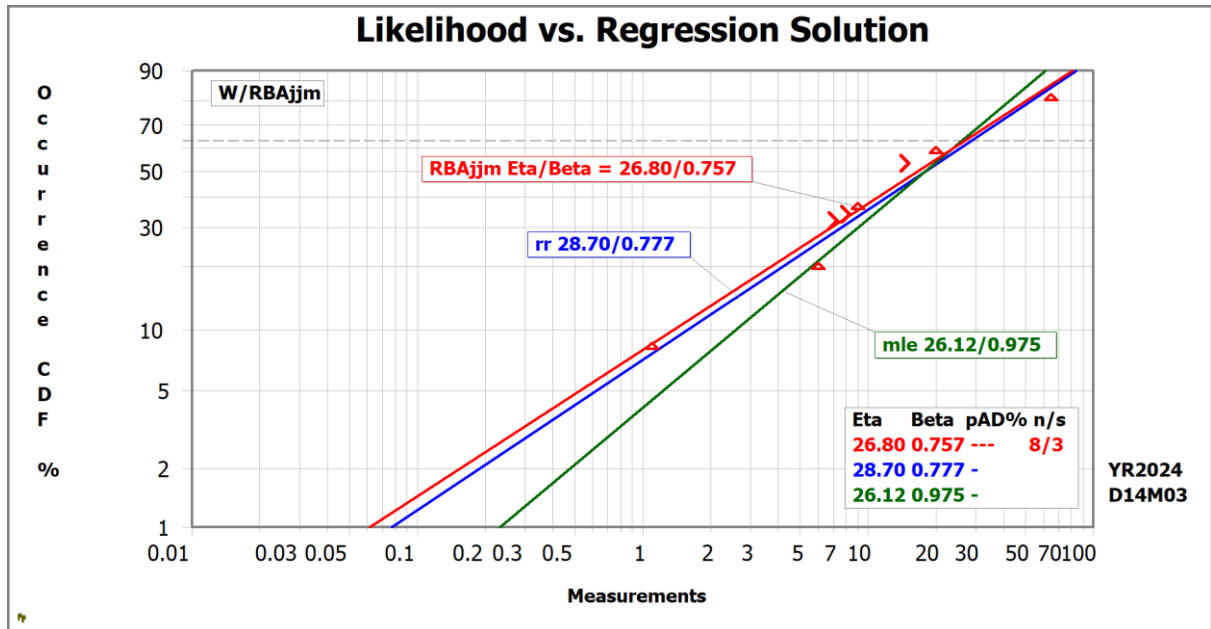

Figure 7: Comparing Rank Regression (rr), Maximum Likelihood Estimate (mle), & mle-RBA (RBAjmm)
- C. From the Main Screen, Home group, select Open/Import, and open the **PlayTIME-Problem-5.w** file. Select the small plot to enlarge, it should look similar to Figure 7, but with only one line plus the data points.
- G. Get “RBAjmm” (mmle) solution as follows: From the Main Screen, select Analysis group, Method/Input again, then select the modified maximum likelihood (mmle) icon (showing mle symbol + 2 arrowheads). “RBAjmm” should appear on the plot for solution method. If not, return to Method/Input, select “F...Fit Method...”, select “T...Modified ... mle Type Select”, then J... Weibull/Gumbel: ‘RBAjmm...’. This latest plot (Figure 7) shows RBAjmm fit (**Eta=26.80, Beta=0.757**) agreeing well with Marker Line # 1 (‘rr’).